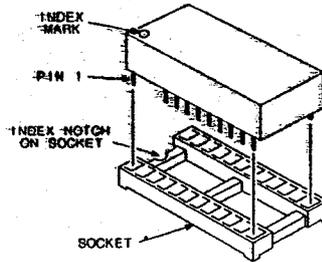

Figure M-2. Installing an IC
1. Make sure the IC pins are straight . Align the pin 1 end of the IC, indicated by an index mark or a notch, with the pin 1 mark on the circuit board location for the IC. Firmly and carefully press the IC pins completely into the socket, as shown in Figure M-2.